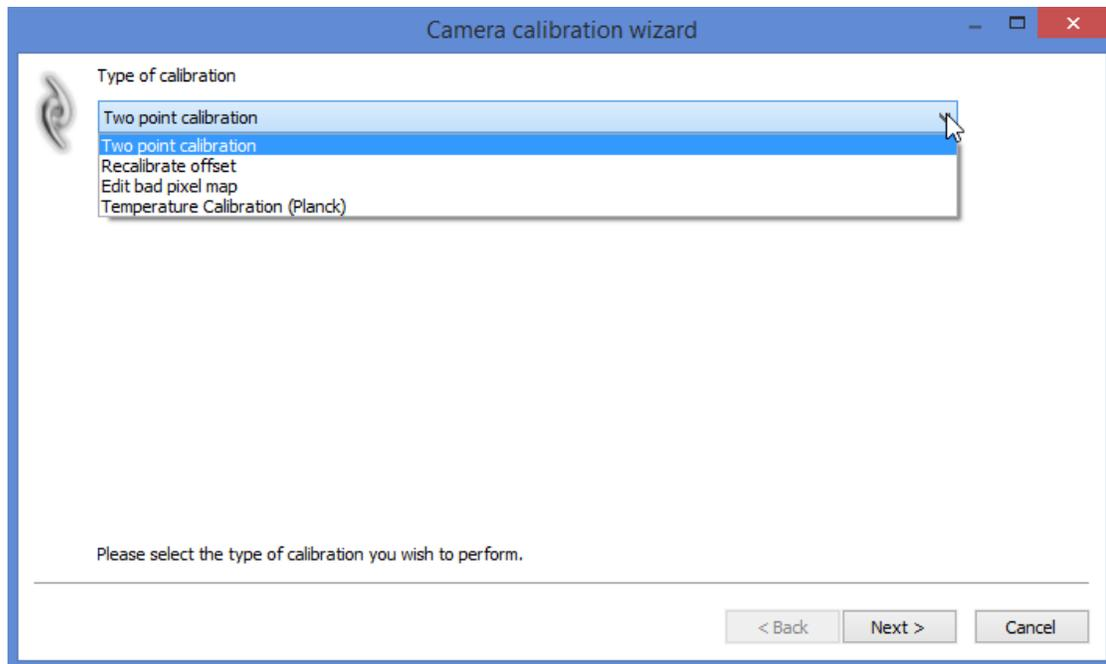

Figure 5-27 Camera calibration wizard
- Calibrate camera – Launches the *Calibration wizard* shown in Figure 5-27.
The following calibration types can be selected (see Figure 5-27):